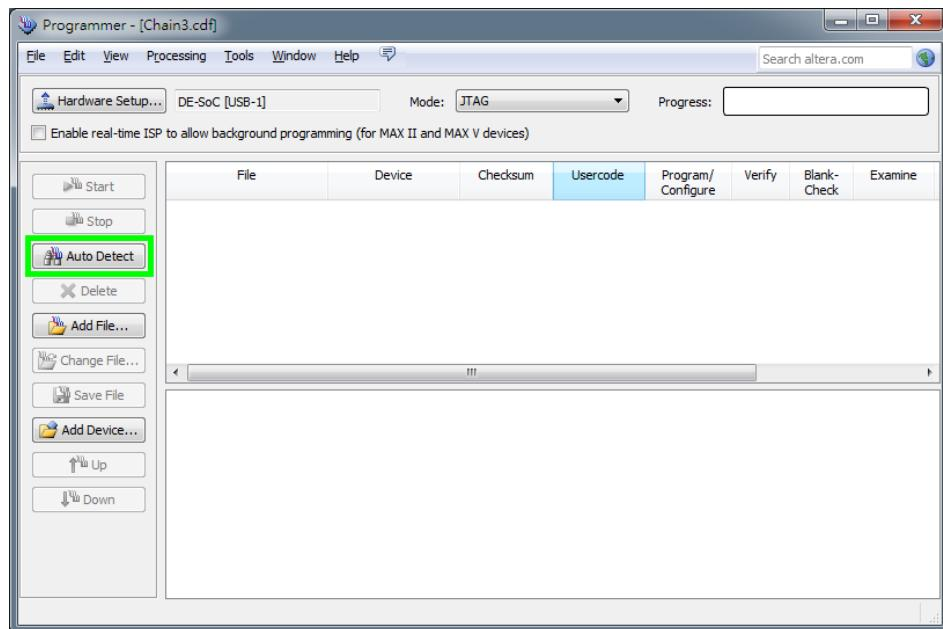

Figure 3-2 FPGA JTAG Programming Steps 1
- Open Programmer and click “Auto Detect” as **Figure 3-2**